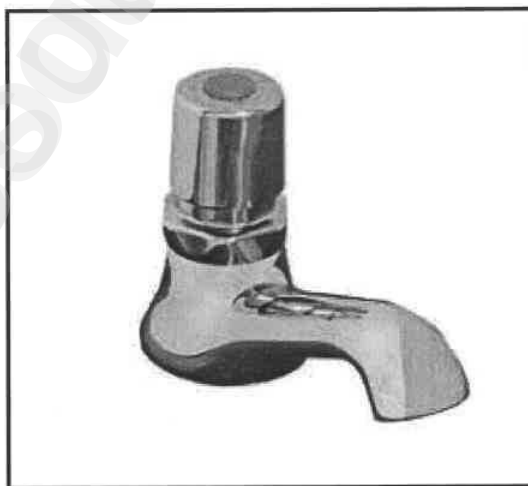

FIGURE 4.2
- 4.2 FIGURE 4.2 below shows a tap.